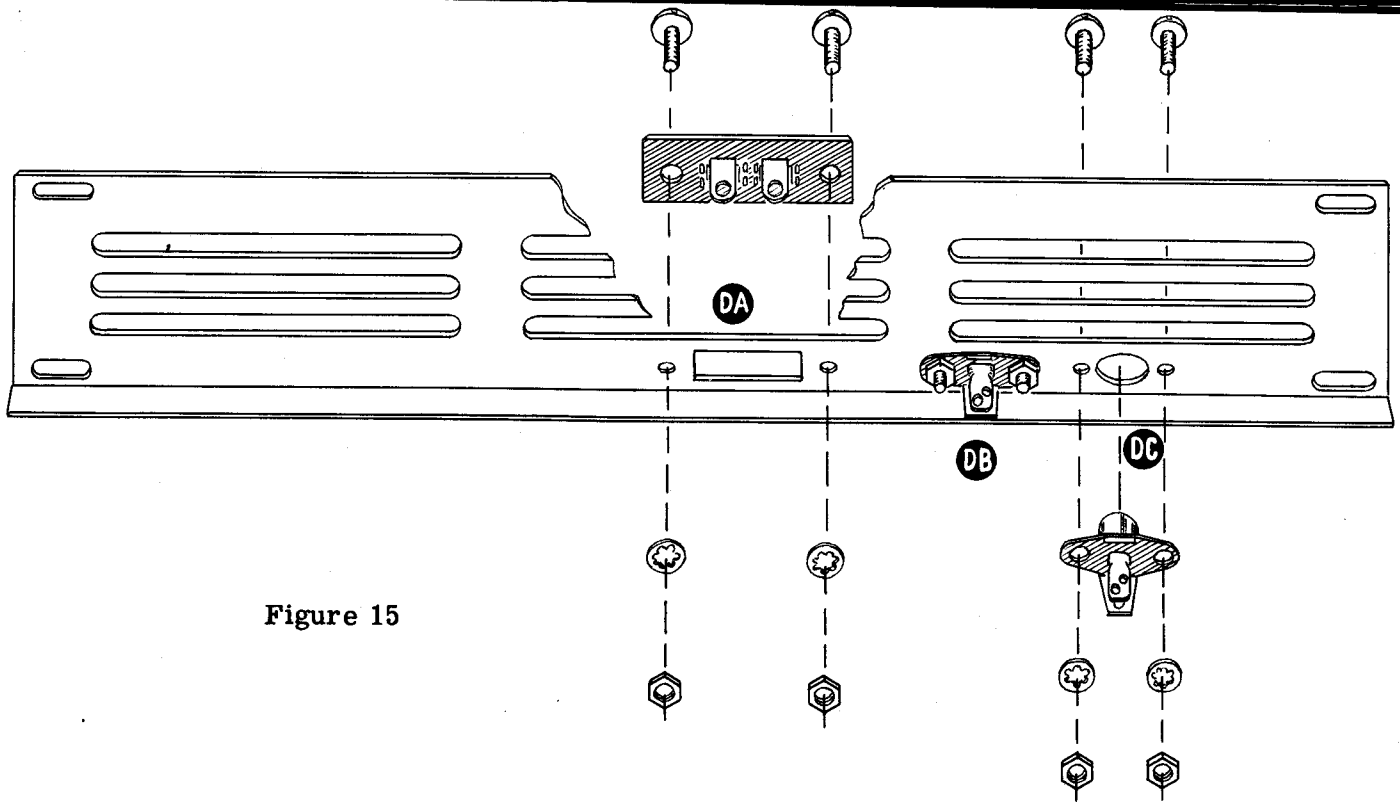

Figure 15
(✓) Mount the 2-lug screw type terminal strip at location DA on the back panel with 6-32 hardware. Note that the strip mounts on the outside, or painted side of the panel as shown in Figure 15 on Page 23.
- (✓) Install a phono connector at DB on the rear panel with 6-32 hardware. Note that these connectors are installed inside the panel as shown in Figure 15. The ground lug should be nearest the panel flange.